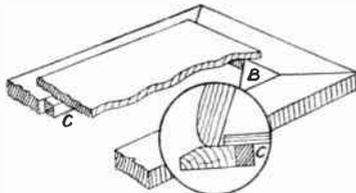

Fig. 1—Floor construction
The four pieces are glued together, and the inside angles may be further strengthened by adding four glued angle blocks as seen at (B) in Fig. 1. On this open
frame will be glued the $\frac{1}{4}$ in. thick floor measuring $6\frac{1}{2}$ ins. by $2\frac{1}{2}$ ins. This is seen in Fig. 1 as a sectional diagram and shows how the piece must have an equal margin each side and each end of the mitred base strips so as to allow the sides and ends of the box, when made up, to stand evenly all round.
The enlarged circled diagram in Fig. 1 shows, by section, how one end of the box will appear when it is glued to the base and in relation to the floor piece. Small square glued blocks about $\frac{1}{4}$ in. in section and cut from spare wood may be added beneath the floor as seen at (C) in Fig. 1.